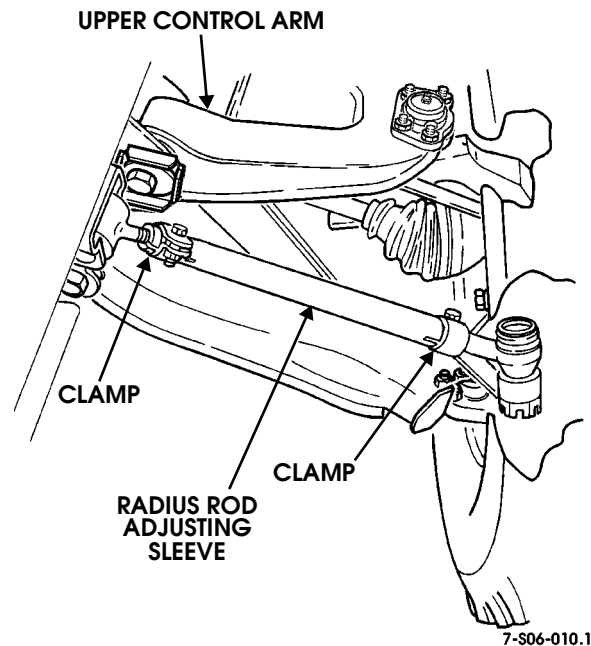

Figure 6-50: Rear Wheel Toe Adjustment Points
2. Loosen clamps on both radius rods (Figure 6-50).